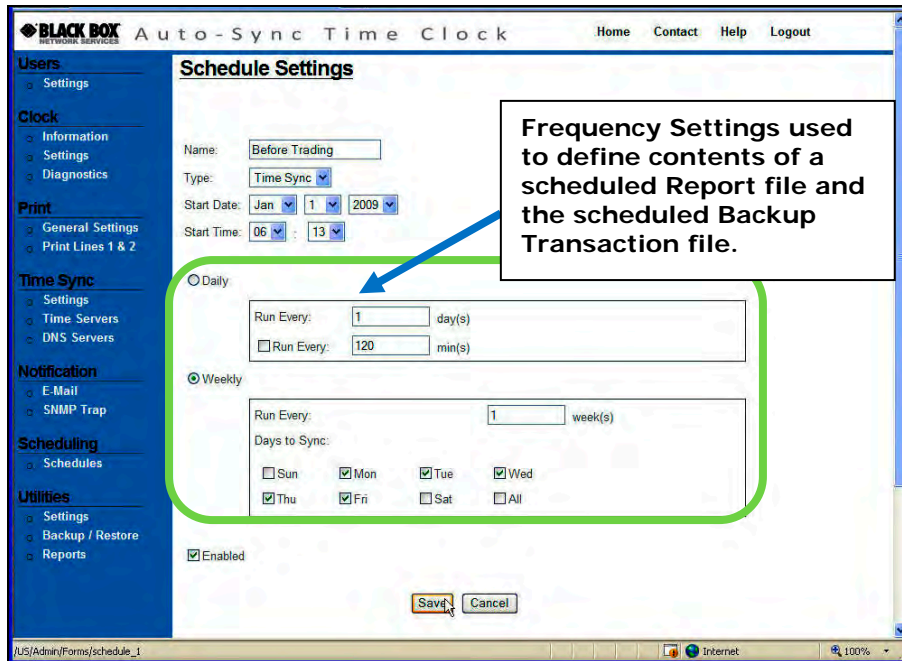

Figure 4-21. Schedule Settings.
2. Highlight the desired time sync schedule to modify and click on the **Edit** button to edit an existing schedule, or click on the **Add** button to create a new schedule and the **Schedule Settings** setup screen will appear (see *Figure 4-21*).
*NOTE: A maximum of eight (8) time sync schedules, two (2) Report schedules, and two (2) Backup schedules for a total of 12 separate schedules that can be user created. Report and Backup schedules do not consume any of the on-board clock flash memory.*